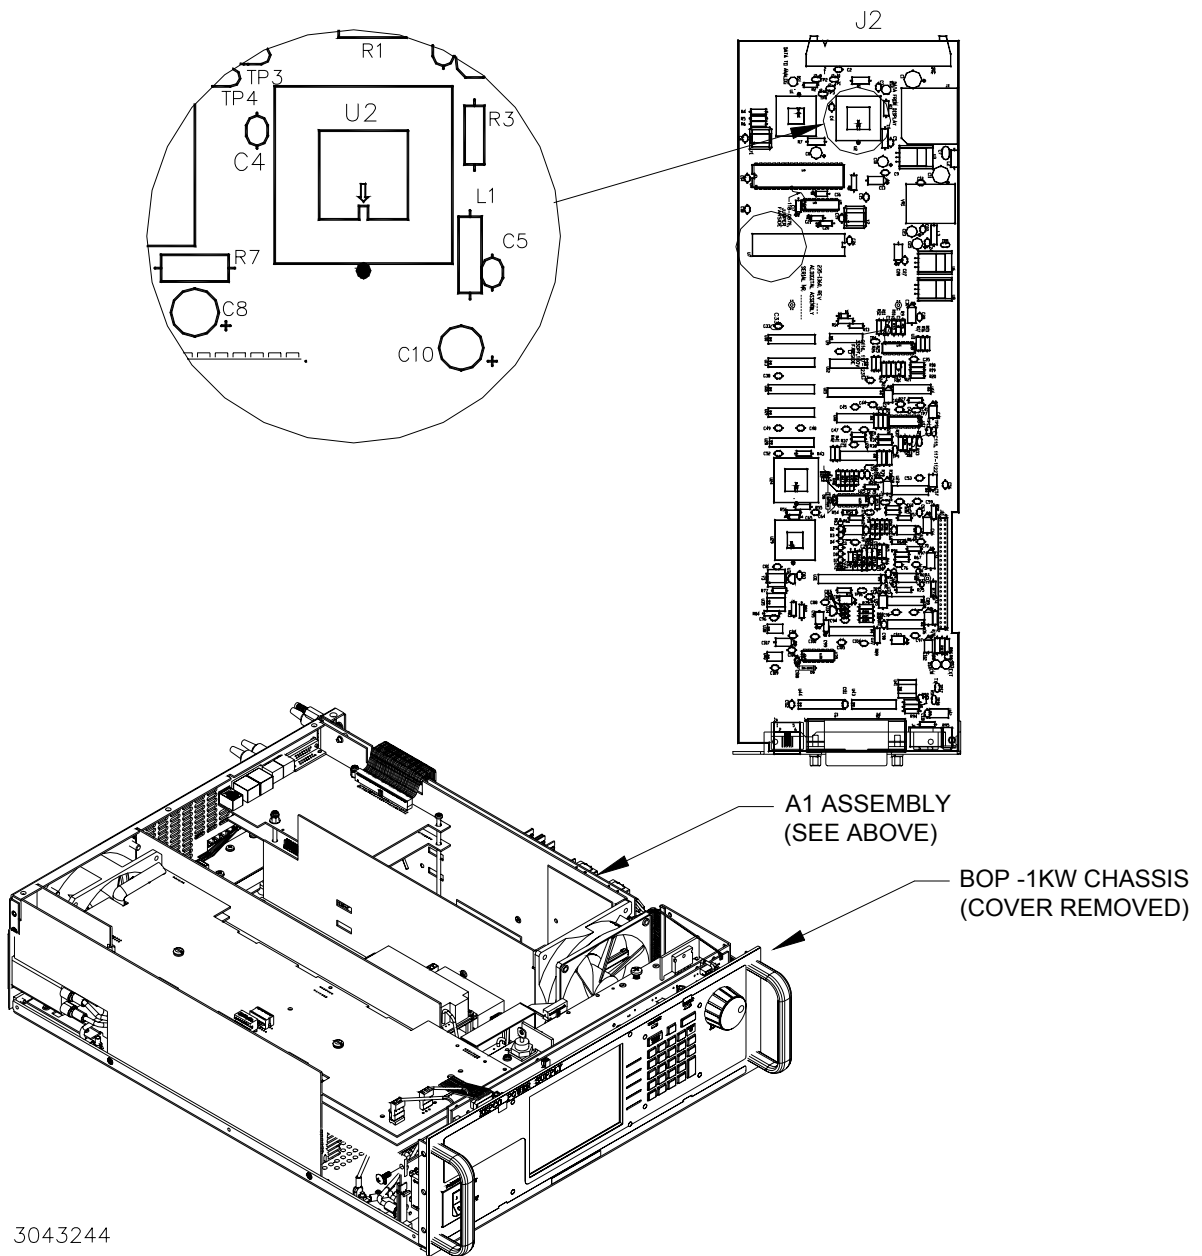

FIGURE 1. DIGITAL BOARD A1 PROM LOCATION
2.4 DIGITAL BOARD A1 PROM REPLACEMENT (SEE FIGURE 1)
1. On Digital board A1, locate PROM, U2 (see Figure 1).
6. Insert the PROM into the socket, insuring the dot on the chip is oriented as shown in Figure 1.